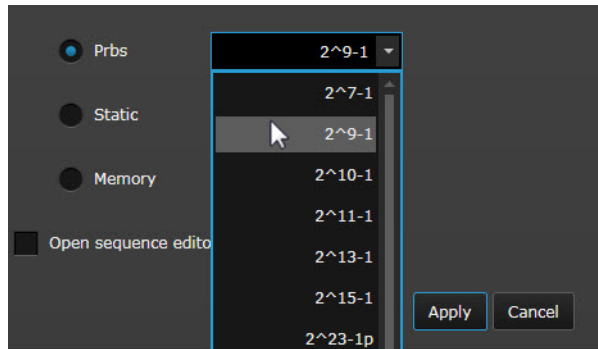

Figure 22 Select PRBS and Polynomial
- 5 In the **Select Sequence Pattern** dialog, select **Prbs** as the **Pattern Type** and then select **2⁹- 1** as the **Polynomial** as shown in Figure 22 on page -51.